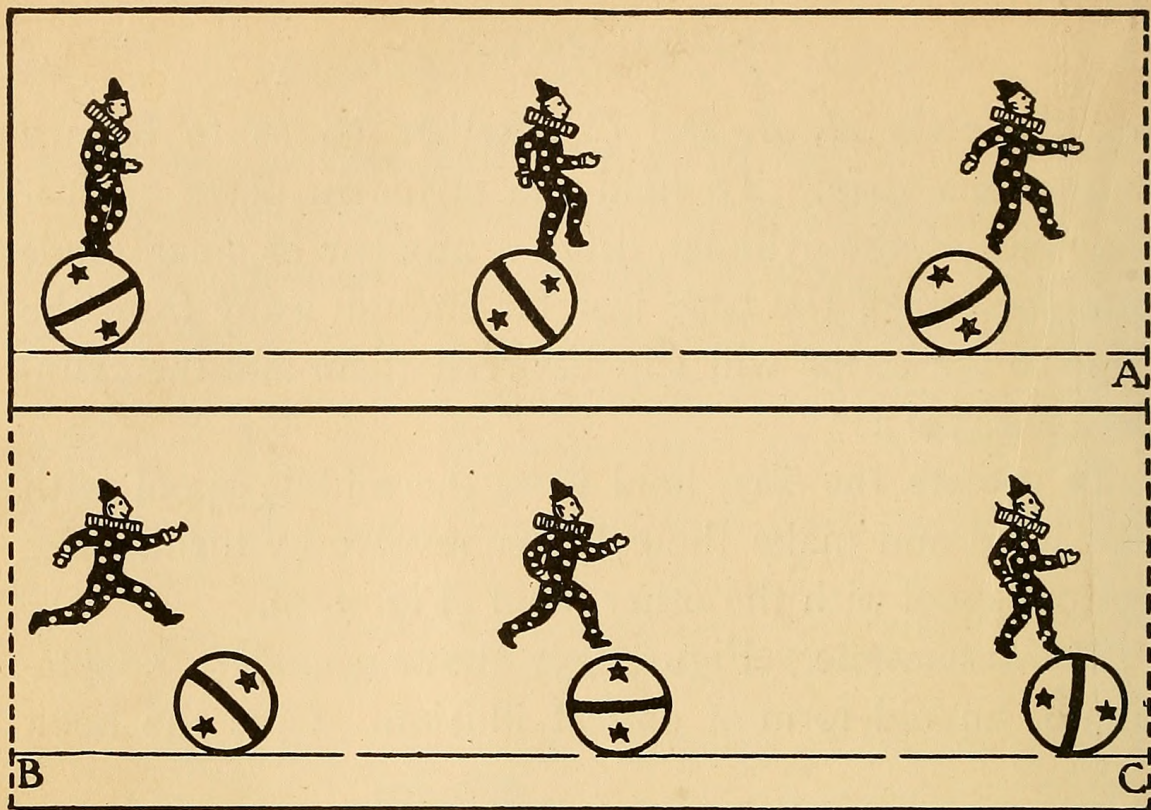

FIG. 355. — Moving Picture Set No. 1.
**The Clown and Ball Pictures** (Fig. 355) are shown four pieces, as are